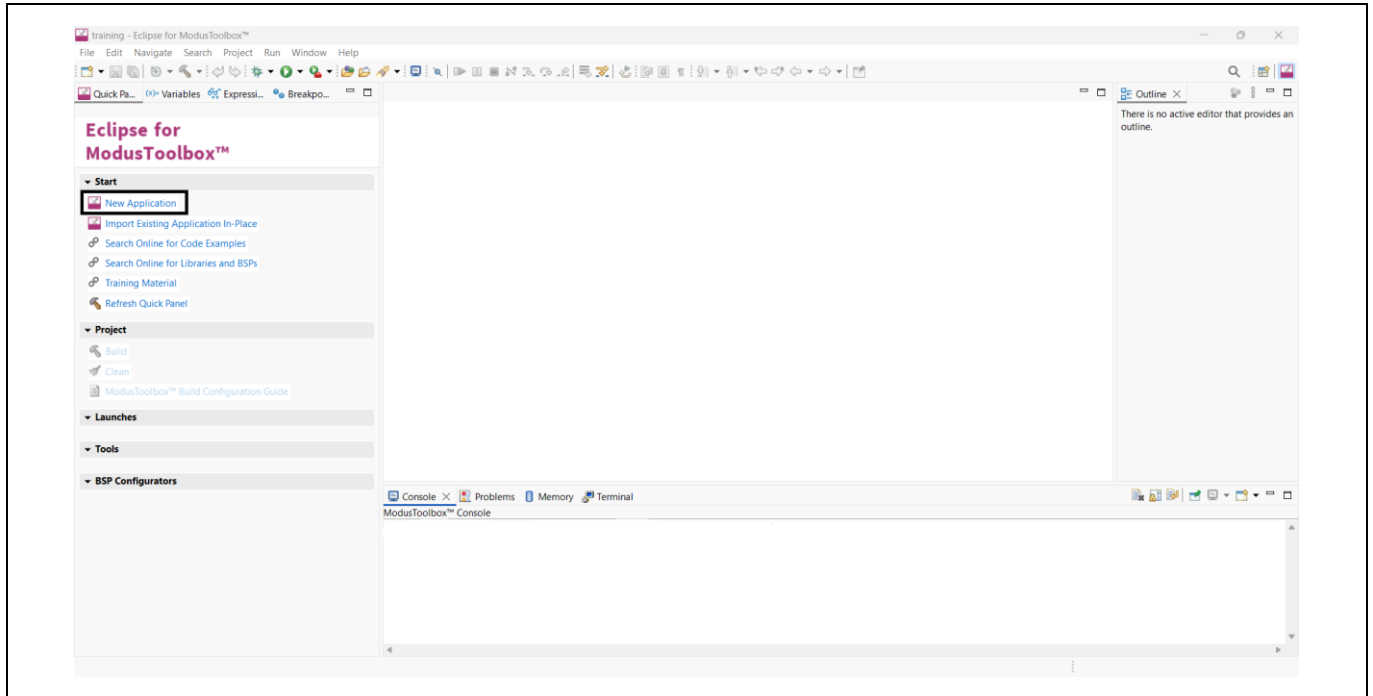

Figure 5 Create new application
3. Clicking Launch opens a new Modus™ Toolbox workspace as shown in Figure 5.